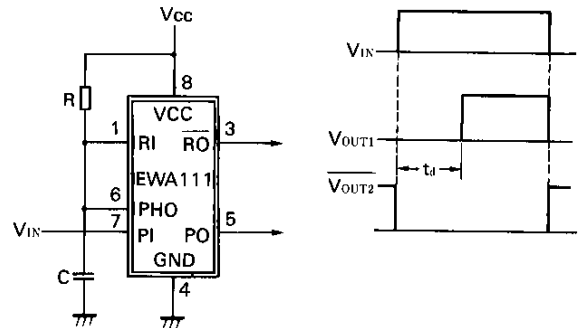

Fig. 14 Delay circuit ②
Figure 14 shows a circuit for obtaining a inphase delay signal  $[V_{OUT1}]$  for an input signal. The delay time,  $t_d$ , can be set free with resistor R and capacitance C. Calculate it using formula (11).